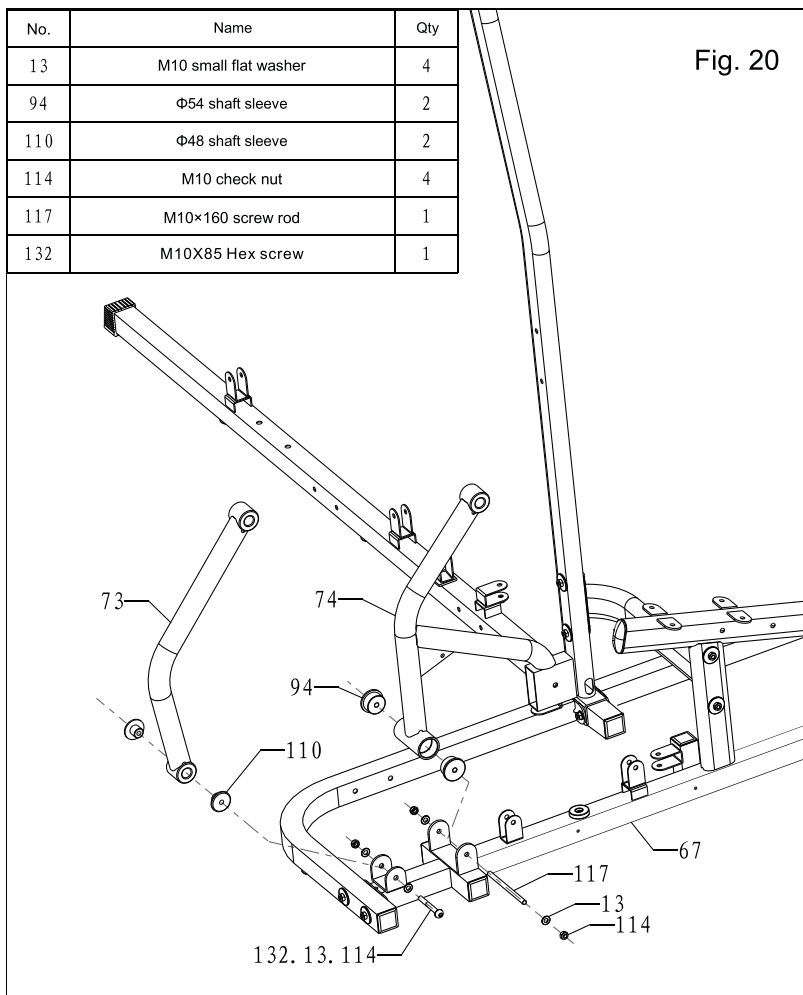

Fig. 20
Step 20: main assembly of back leg press underframe (as shown in Fig. 20)